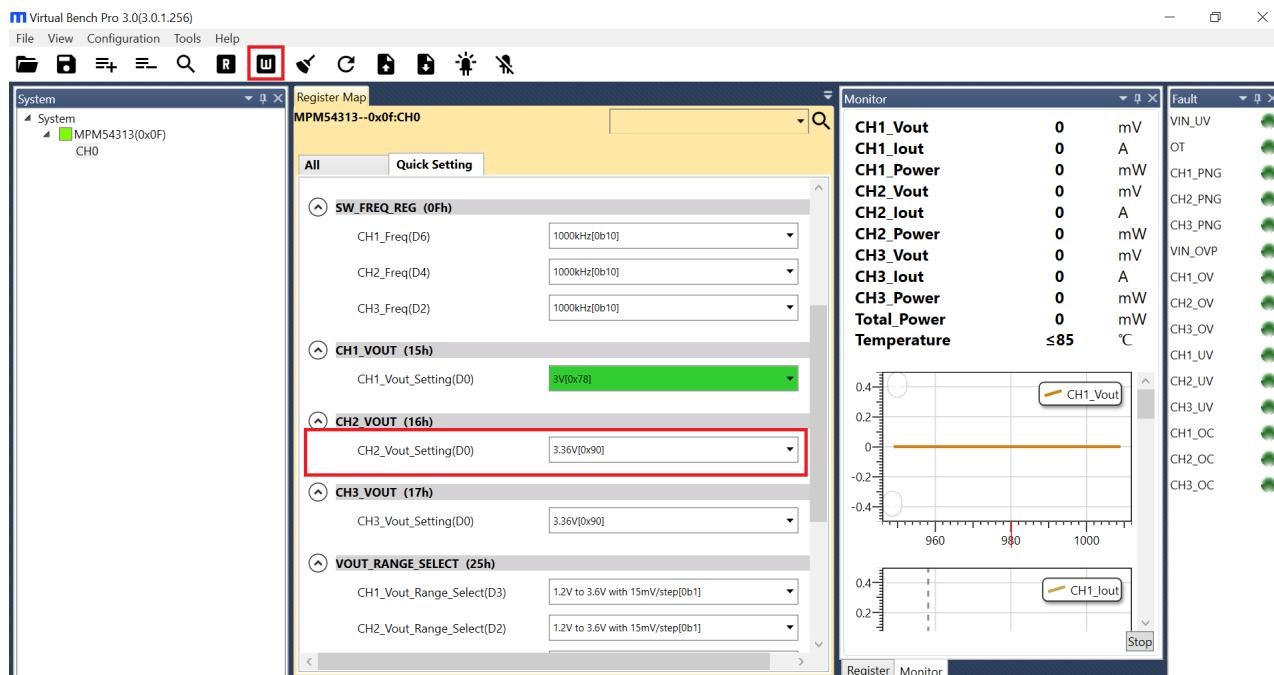

Figure 5: Modify the Register Values
5. Change the register values to their required value. A valid input must be entered; otherwise, an alert appears and the entered value is not accepted (see Figure 5).